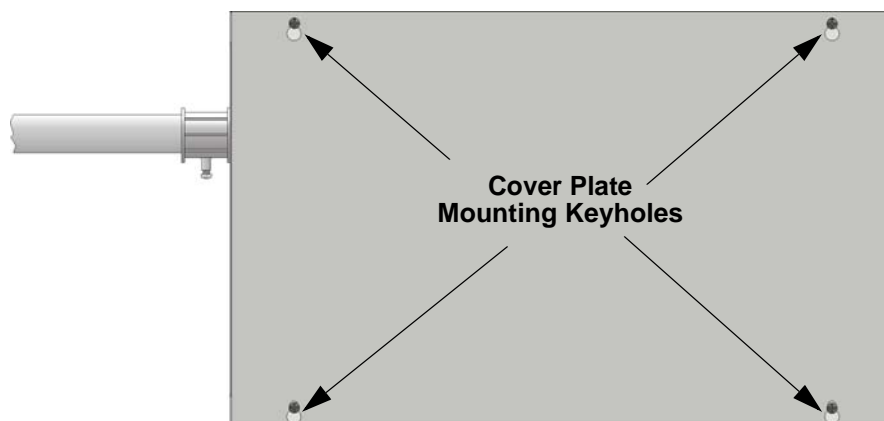

**Figure 4-6 Battery Connections in the RBB Cabinet**
3. Run extended battery cable from control panel cabinet through conduit to RBB cabinet. See Figure 4-6.
*Note: Figure 4-6 is an example of how the wire connections can be routed. However, any other cabinet knock-outs (on either the main control panel or the RBB cabinet), that are not previously being used may be utilized to connect conduit between the two cabinets.*
4. Connect battery leads to the backup battery terminals. See Figure 4-6.
5. Insert the RBB cover screws into the cover mounting holes (see Figure 4-6).